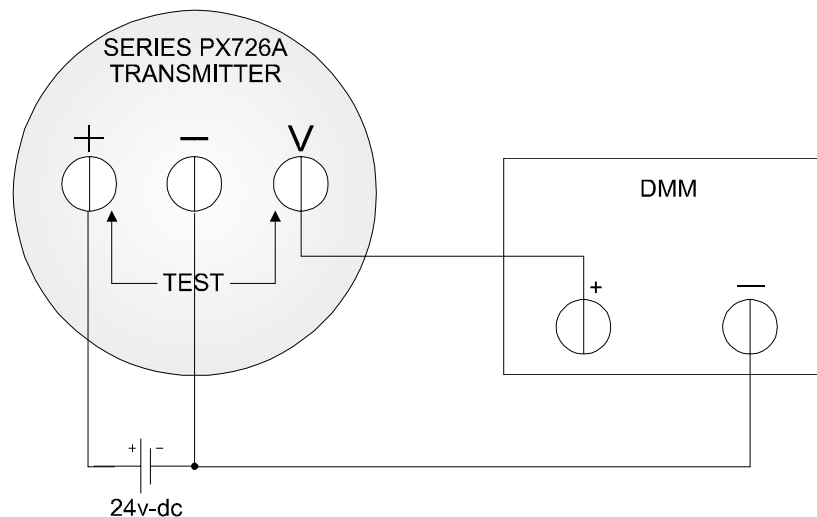

Figure 3-1a - Calibration Test Setup (Voltage Configuration)
Electrical Connections: The electrical connections for a voltage output calibration setup are made to the transmitter as shown in Figure 3-1a. However, refer to Figure 3-1b if the transmitter is configured for current mode operation. The Current Sampling Resistor will convert the 4-20mA-output signal to a 1-5V signal, which generally allows for a more accurate reading. A series milliammeter may also be used as discussed in Section 4.2.
1. Provide a test setup as shown in Figure 3-1a or 3-1b depending on whether the unit has been configured for current or voltage mode. Make sure that no electrical power is applied to the transmitter while making connections. The Multimeter must be set in "Voltage" mode.